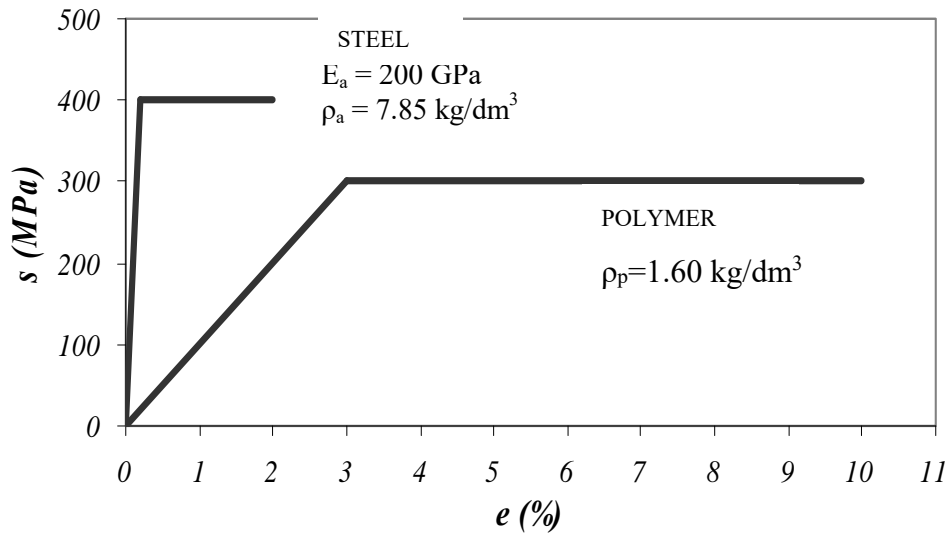
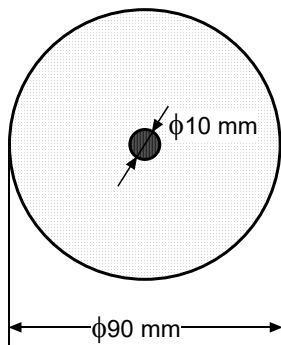

Figure 1
Figure 2
6. Figure 1 shows the stress-strain curves corresponding to the steel core (curve 1) and to the polymer coating (curve 2) that constitute an electric power cable. The figure itself shows the values of some physical and mechanical magnitudes of interest. The cable cross section with its significant geometrical dimensions are shown in Figure 2.